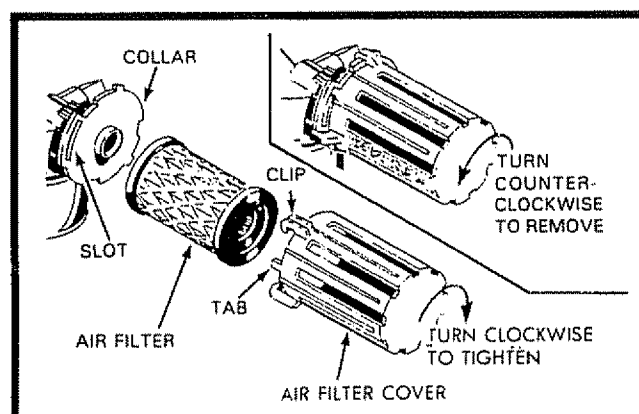

FIG. 8
- Remove the Air Filter Cover by turning counter-clockwise to the stop and pull away from Collar (See Fig. 8).
- Remove Filter from inside of Cover (See Fig. 8).
- Push in on Cover and turn clockwise to tighten (See Fig. 8).